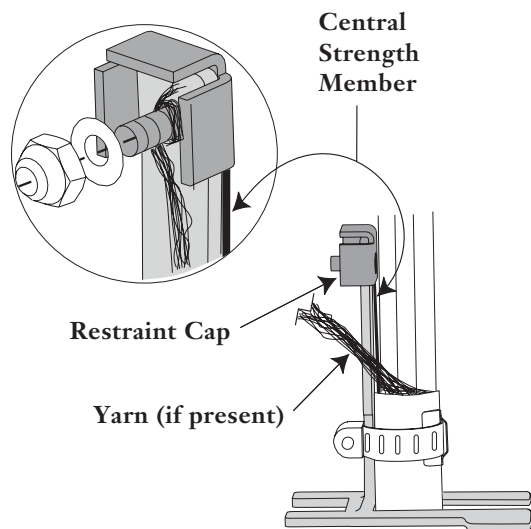

Figure 8 — Nonmetallic Strength Member
- Step 2** Insert the restraint cap threaded stud through the hole in the strain-relief bracket, capturing the central strength member between the two (Figure 8).